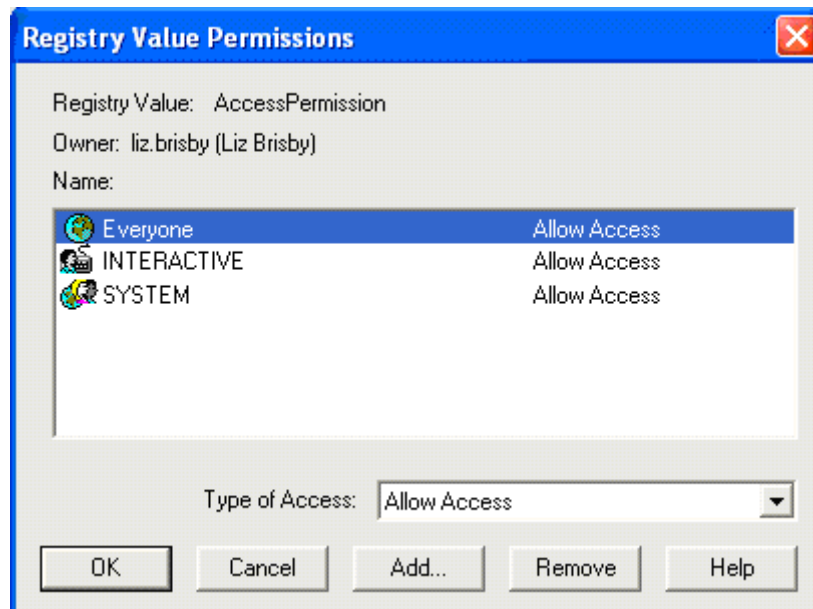

Figure 70 - Registry Value Permissions Window
8. The **Registry Value Permissions** window (Figure 70) appears.